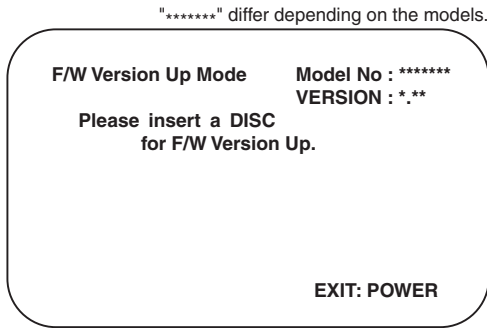
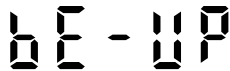

Fig. 3 Version Up Mode Screen
Fig. 4 VFD in Version Up Mode
2. To put the DVD player into version up mode, press [DVD], [9], [8], [7], [6], and [SEARCH MODE] buttons on the remote control unit in that order. The tray will open automatically. Fig. 3 appears on the screen and Fig. 4 appears on the VFD.
The DVD player can also enter the version up mode with the tray open. In this case, Fig. 3 will be shown on the screen while the tray is open.